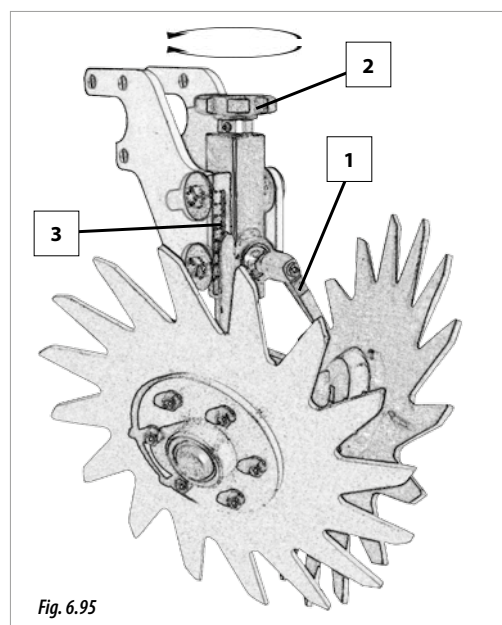

Fig. 6.95
- 1- Loosen the securing lever (1, Fig. 6.95)
- 2- Turn the knob (2, Fig. 6.95) until reaching the desired working height. To adjust the height, use the graduated scale (3, Fig. 6.95).
- 3- Fix the position using the lever (1, Fig. 6.95).